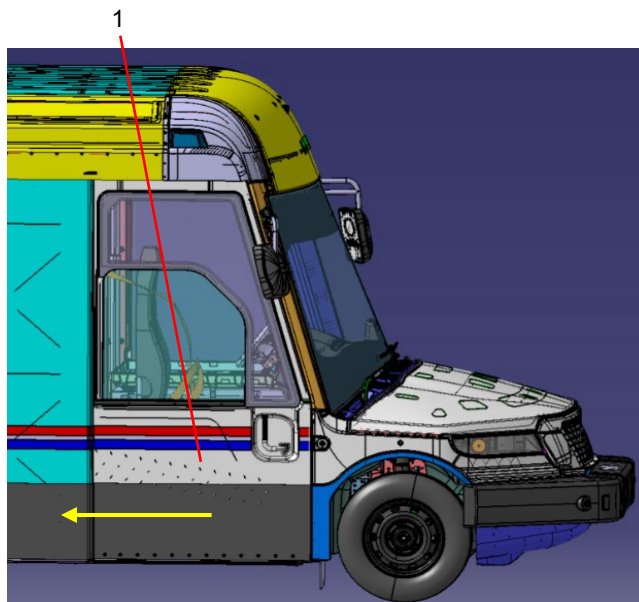

Figure 1. EV Danger Label Removal.
- 3) Position curbside door (Figure 1, Item 1) in the “Open” position.